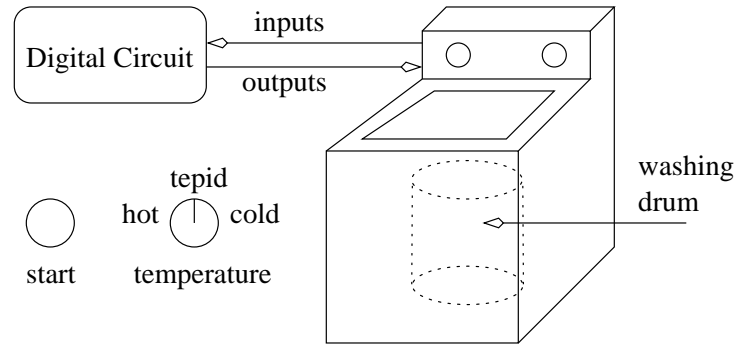

Figure 7.6: A humble washing machine with a close-up of the start button and temperature switch.
14. (24 pts.) Construct a digital circuit to control the operation of my washing machine, see Figure 7.6. To use my washing machine you set the *temperature* switch to either hot, tepid or cold and then press the